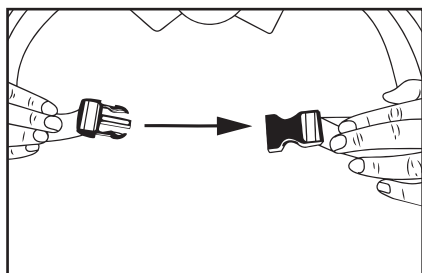
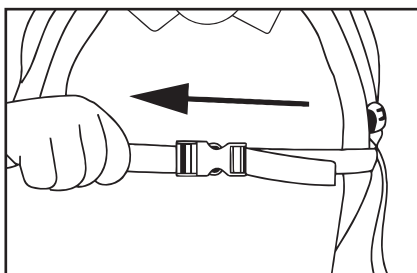

FIGURE 3
FIGURE 4
6.1 Once the machine is comfortable on your back, connect the top horizontal chest buckle **FIGURE 3** and then tighten by pulling on the end of the strap. **FIGURE 4.**